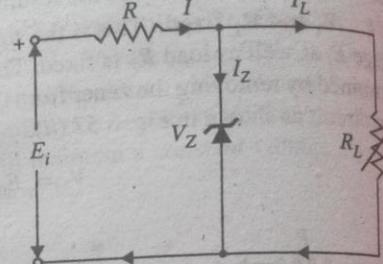

Fig. 6.59
2. Fixed E_i and Variable R_L . This case is shown in Fig. 6.59. Here the applied voltage (E_i) is fixed while load resistance R_L (and hence load current I_L) changes. Note that there is a definite range of R_L values (and hence I_L values) which will ensure the zener diode to be in "on" state. Let us calculate that range of values.
* If you remove the zener in the circuit shown in Fig. 6.59, then voltage V across the open-circuit is